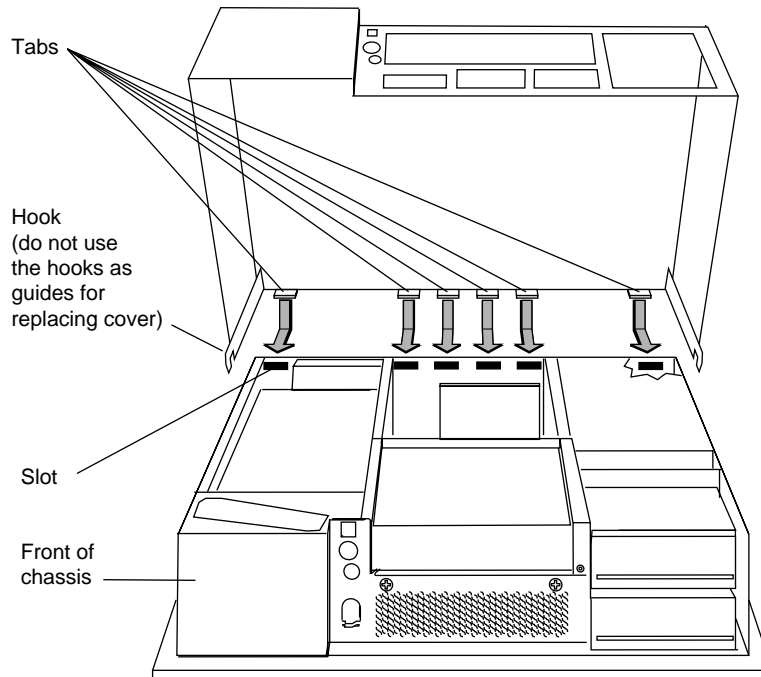

Figure 9-31 Replacing the Top Cover
1. Locate the tabs on the inside and back of the top cover and the slots on the back of the workstation. See Figure 9-31.